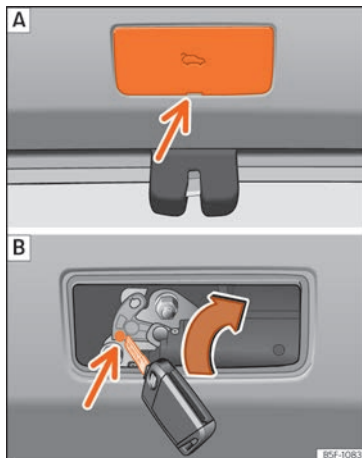

Fig. 10 Luggage compartment: access to manual release.
- Remove the cover by inserting a screwdriver in groove » » **Fig. 10 A**.
- Insert the key into the opening and turn it in the direction of the arrow until the latch » » **Fig. 10 B** has been released.